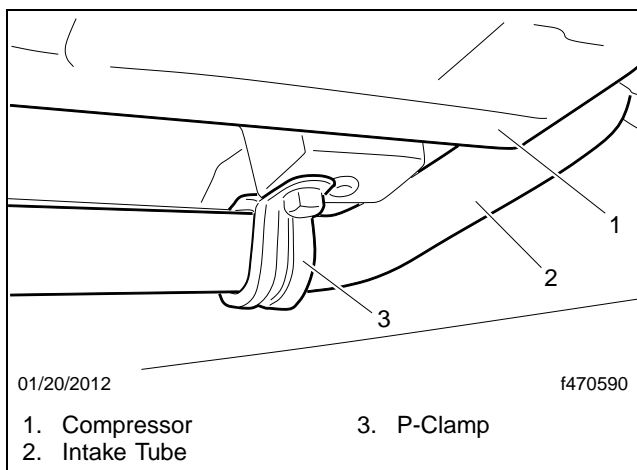
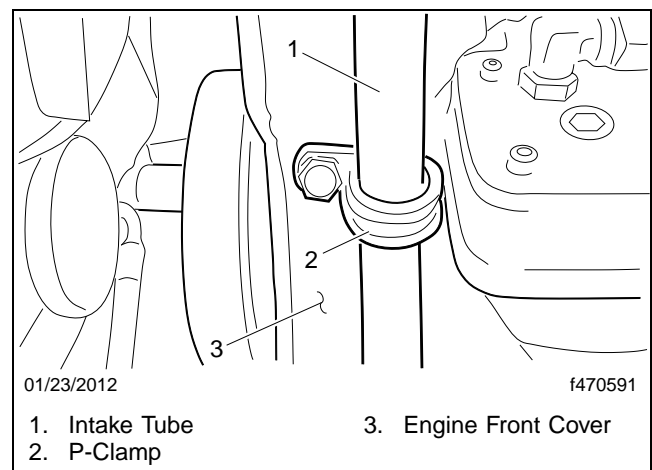

Fig. 5, Intake Tube Installation
Fig. 6, Intake Tube Installation, Engine Front Cover
5. From the kit, use the two smaller cushion clamps and the two metric bolts to connect the air compressor tube to the air compressor and front gear housing cover. See **Fig. 5** and **Fig. 6**.